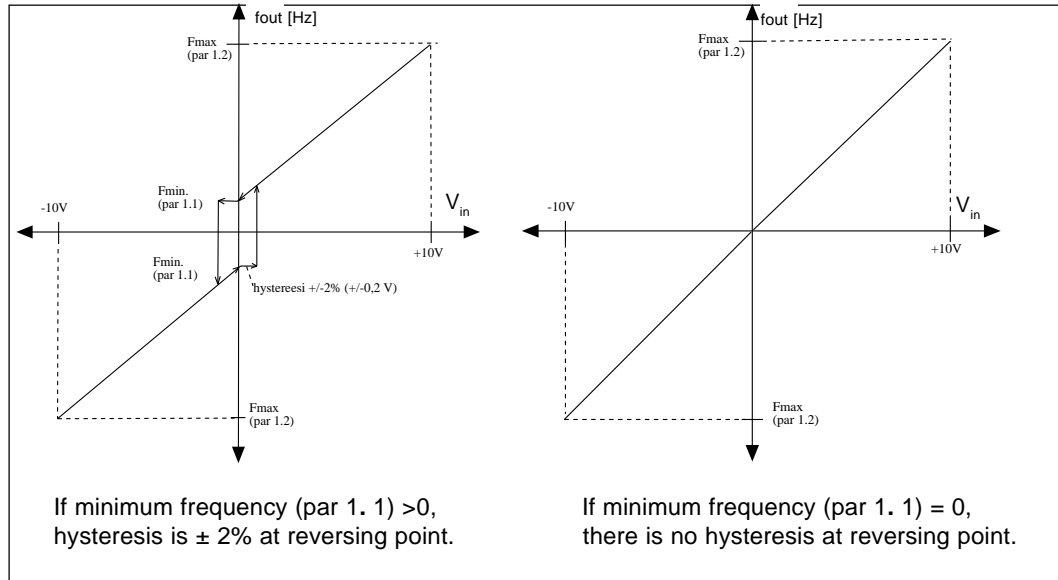

Fig. 5.4-1 Joystick control  $V_{in}$  signal -10 V—+10 V.
**Note!** When joystick control is used, the direction control is generated from the joystick reference signal. See figure 5.4-1.